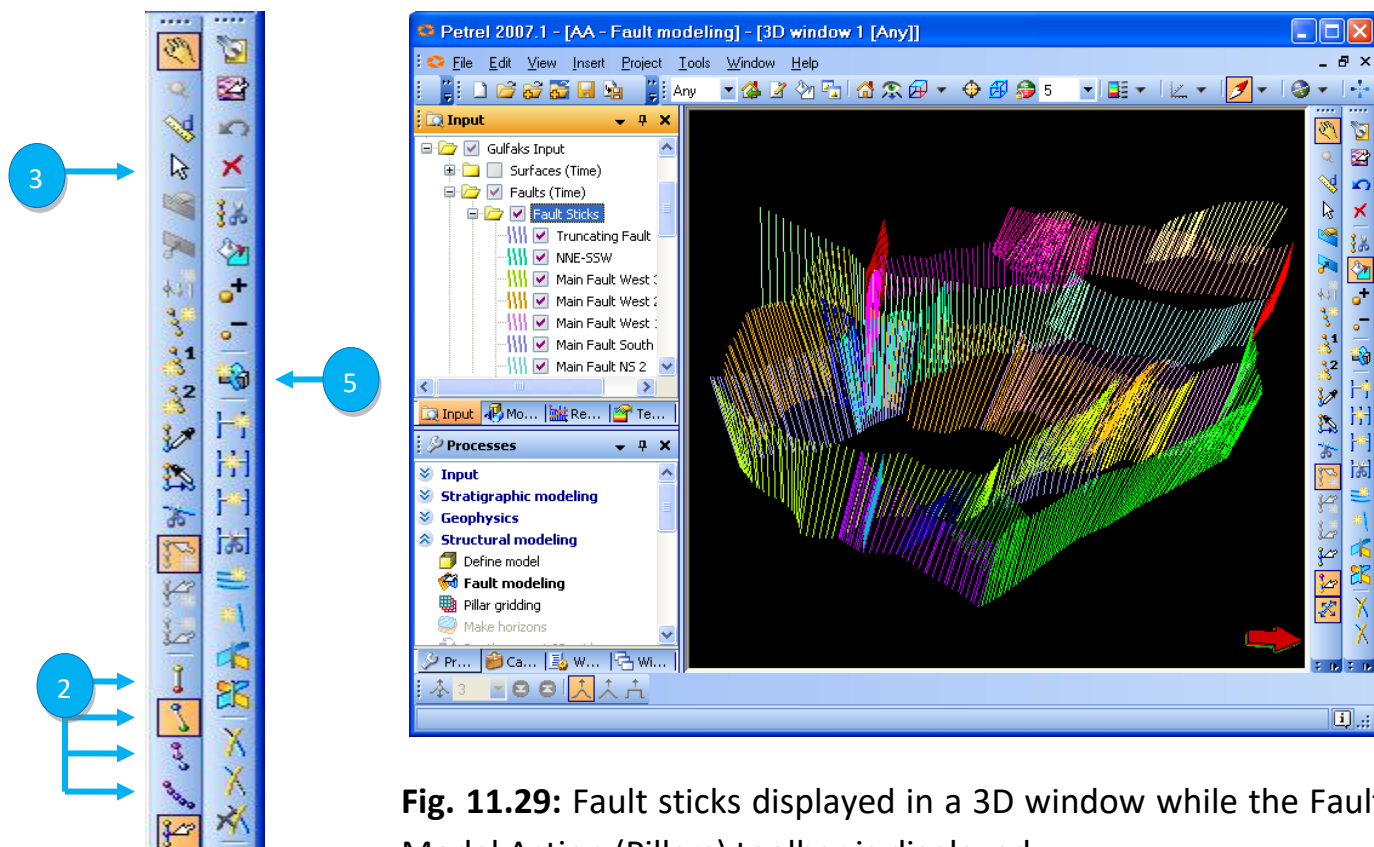

Fig. 11.29: Fault sticks displayed in a 3D window while the Fault Model Action (Pillars) toolbar is displayed
5. Click on the **Create Fault from Fault Sticks, Surface or Interpretation** icon in the Function bar to generate Key Pillars along the selected fault. See Fig. 11.29.